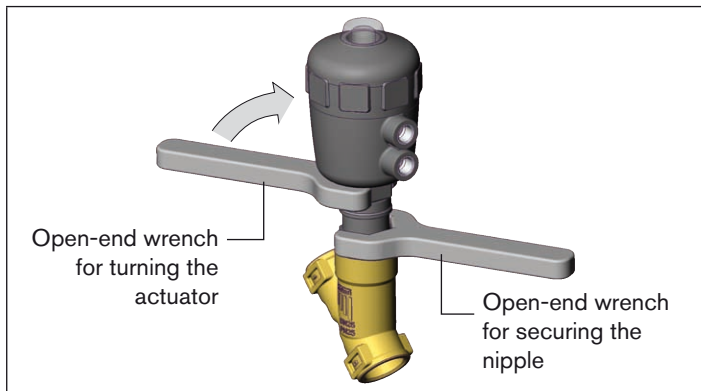

Fig. 20: Turning with open-end wrench
- Turn the actuator **in the specified sense of direction** only (see *Fig. 20:*).